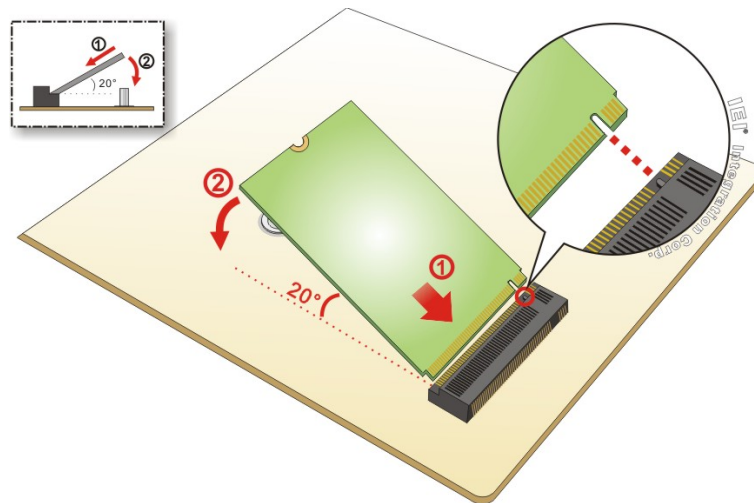

Figure 3-7: Inserting the M.2 Module into the Slot at an Angle
Step 5: Line up the notch on the M.2 module with the notch on the slot. Slide the M.2 module into the socket at an angle of about 20° (**Figure 3-7**).